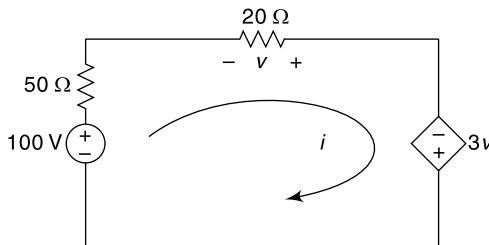

Fig. 14.31
14.59 Calculate the power delivered by the sources and power dissipated by the resistors in the network shown in Fig. 14.31.